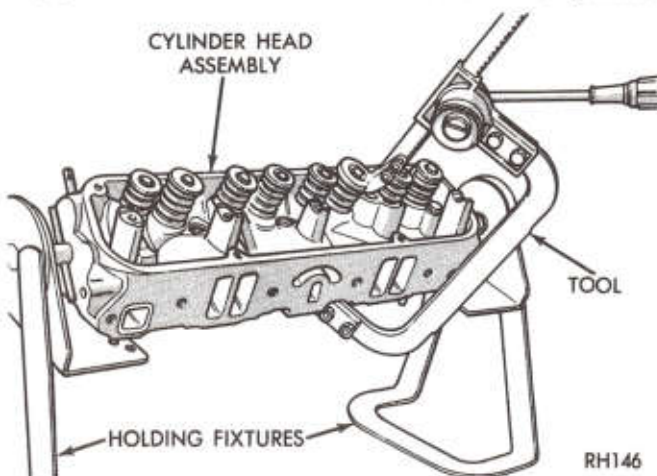

Fig. 12—Compressing Valve Spring with Tool C-3422A
- (1) With cylinder head removed, compress valve springs using Tool C-3422-A, as shown in (Fig. 12).
- (2) Remove valve retaining locks, valve spring retainers, valve stem cup seals and valve springs.
- (3) Before removing valves, **remove any burrs from valve stem lock grooves to prevent damage to the valve guides.** Identify valves to insure installation in original location.